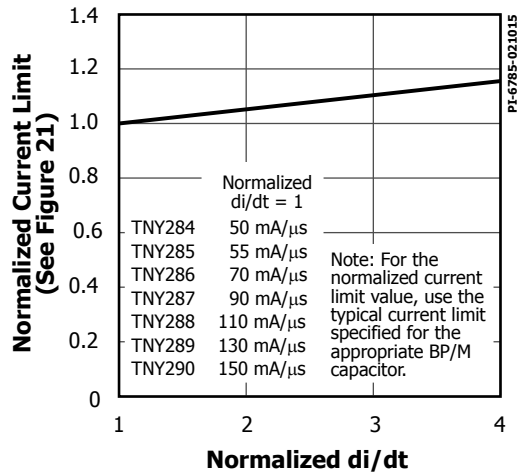

Figure 25. Standard Current Limit vs. di/dt .
- E. For current limit at other di/dt values, refer to Figure 25.